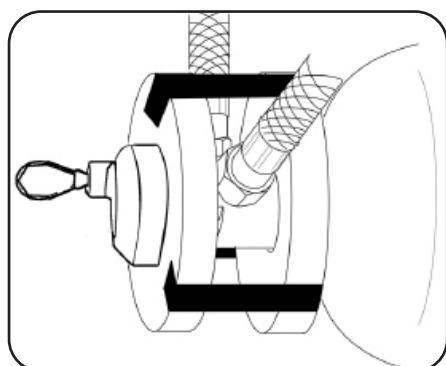

FIGURE 825
- 5.18 Insert two pieces of protective foam onto the operating head and tape together, using 100 mm (4") adhesive tape. Refer to FIGURE 825.